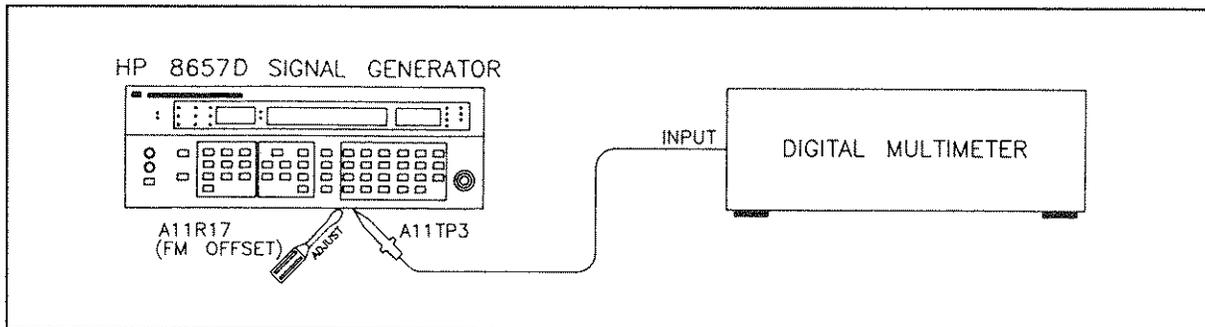

Figure 5-19. DC FM Offset Adjustment Setup
- Connect the digital multimeter to A11TP3 as shown in Figure 5-19.